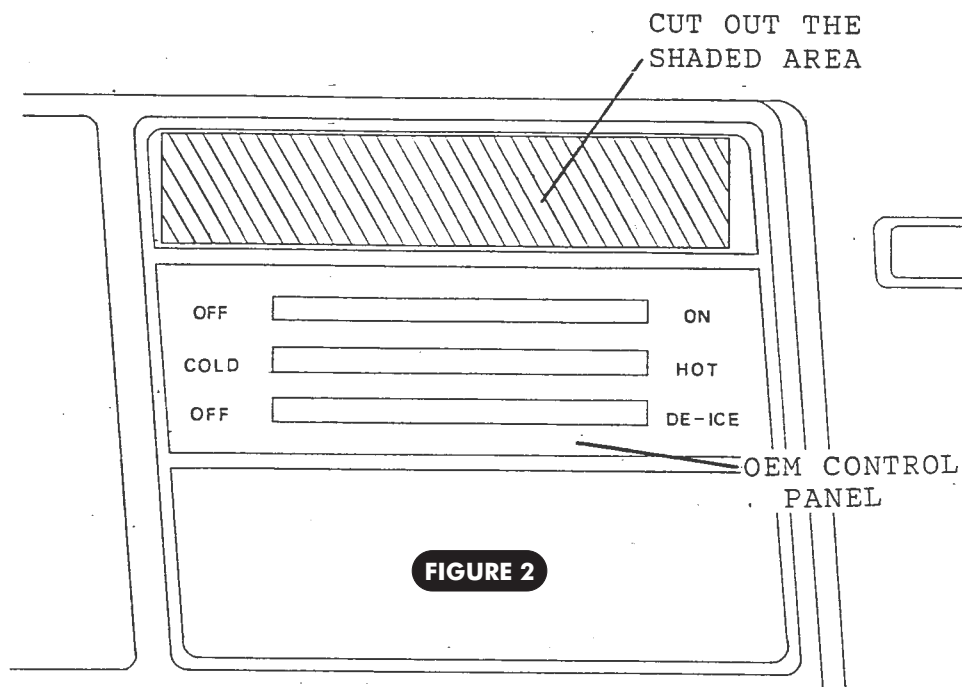

FIGURE 2
-FIGURES 2 & 3
1. CUT OUT THE CENTER OF THE PANEL ABOVE THE OEM CONTROL PANEL, SEE FIGURE 2 ABOVE. USE THE NEW CENTER LOUVER ASSEMBLY (SUPPLIED) AS A TEMPLATE, BE SURE NOT OVER SIZE THE HOLE.